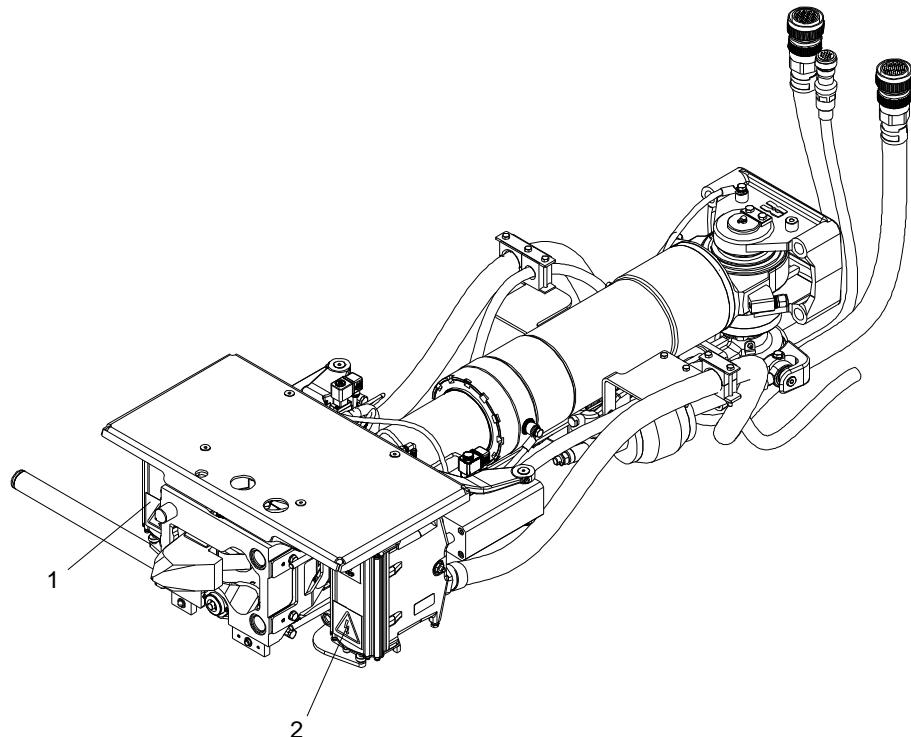

Figure 5-10: Inspect Electrical Coupler Contacts
1. Move electrical couplers (1 and 2) to their front position to open cover. Alternatively, unhook the bottom spring from the electrical coupler cover to open the cover more easily. See Figure 5-10.